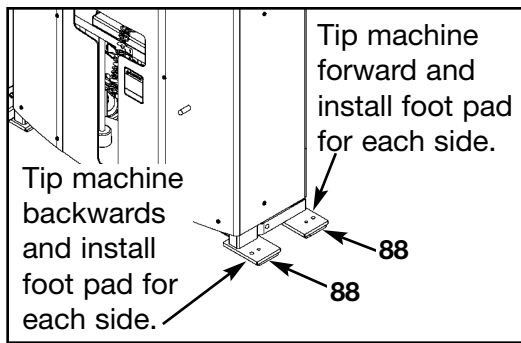

Figure 3
**3. Installing foot pads onto frame** (see steps 3A - 3E and Figure 3).
- B. Carefully tip FT 360 forward (do not exceed 30 degrees) or just enough to install the foot pads. See Figure 3 on next page.